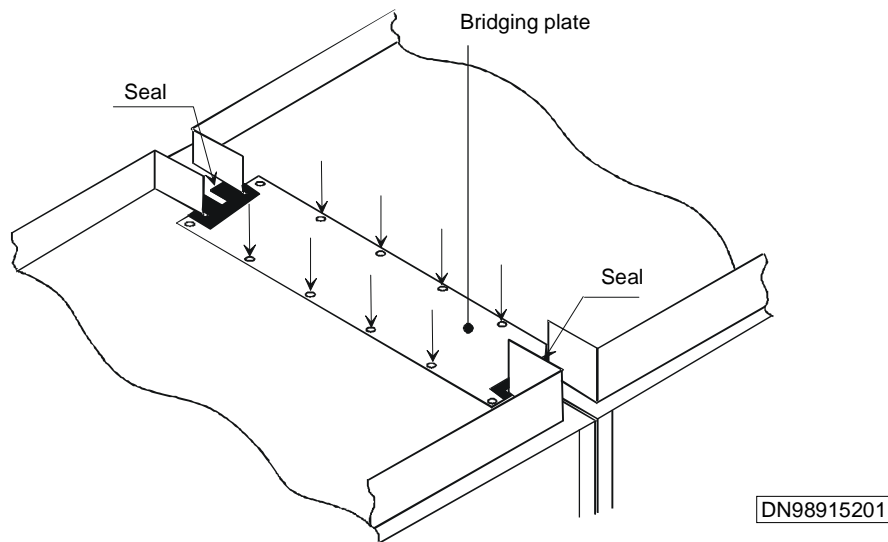

Figure 20 Positioning the bridging plate
3. Place the bridging plate across the cabinets as shown in Figure 20. Note that the underside of the bridging plate has a full-length seal and the topside has seals at both ends.